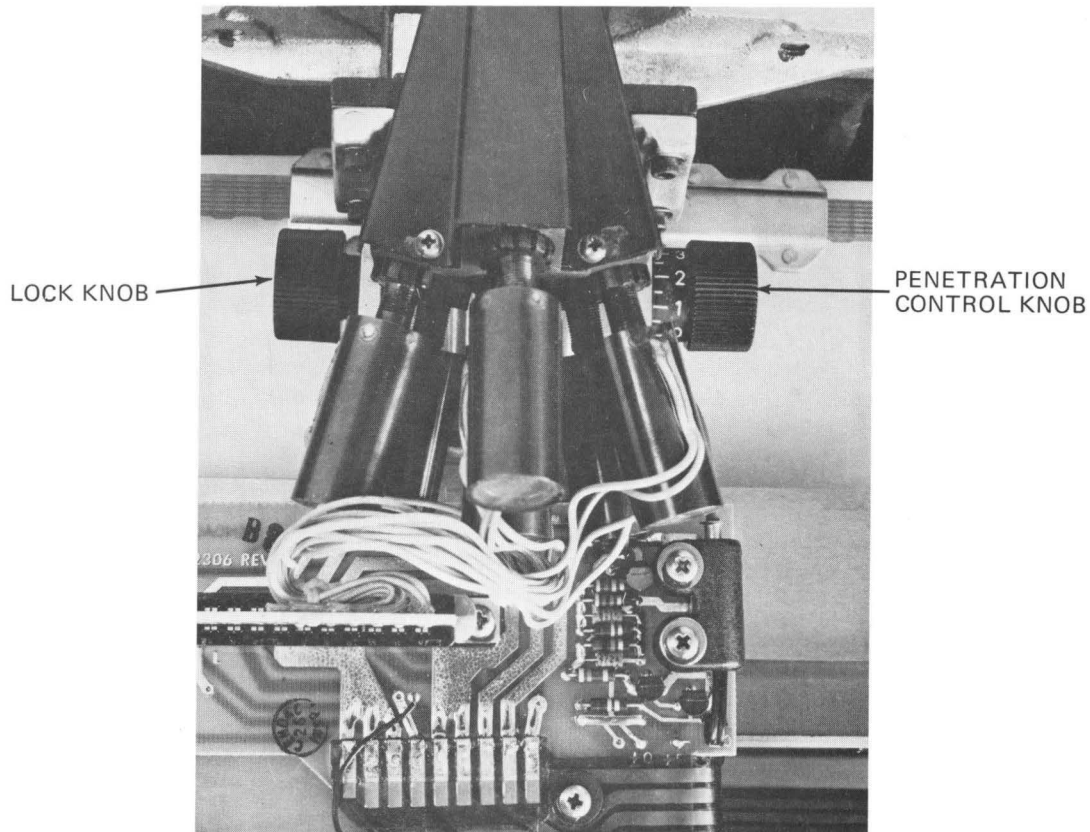

FIGURE 97. FORMS THICKNESS CONTROLS
4. Loosen the lock knob on the left side of the print head (Figure 97).